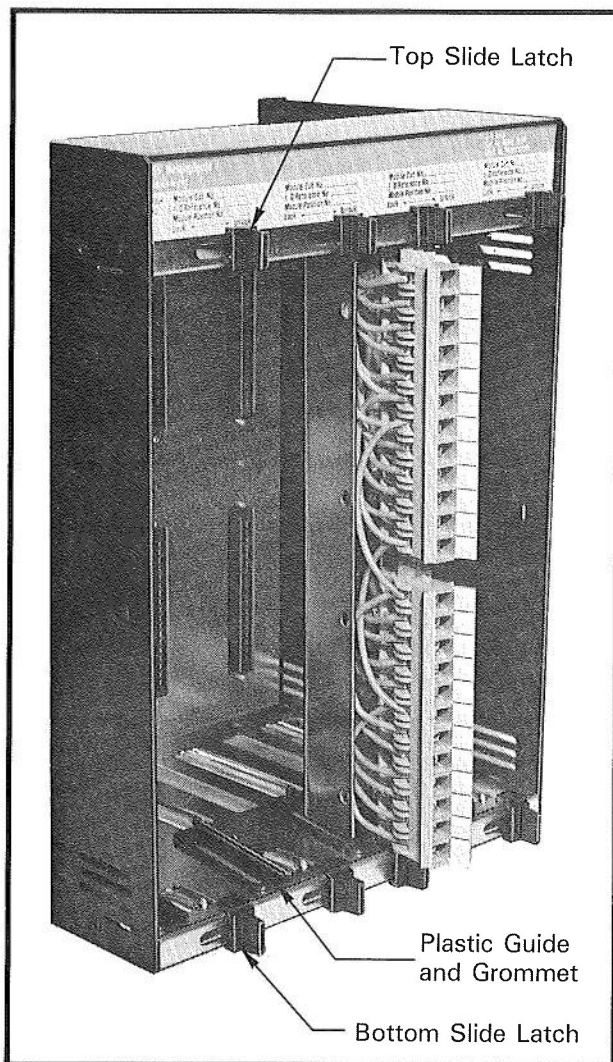

Figure 7 — 4-Slot Horizontal Rack with Terminal Raceway in Extended Position
Step 3 — Pull the terminal raceway for the appropriate I/O rack module slot forward until it stops; lock the raceway in the extended position (Figure 7) using the top and bottom slide latches.